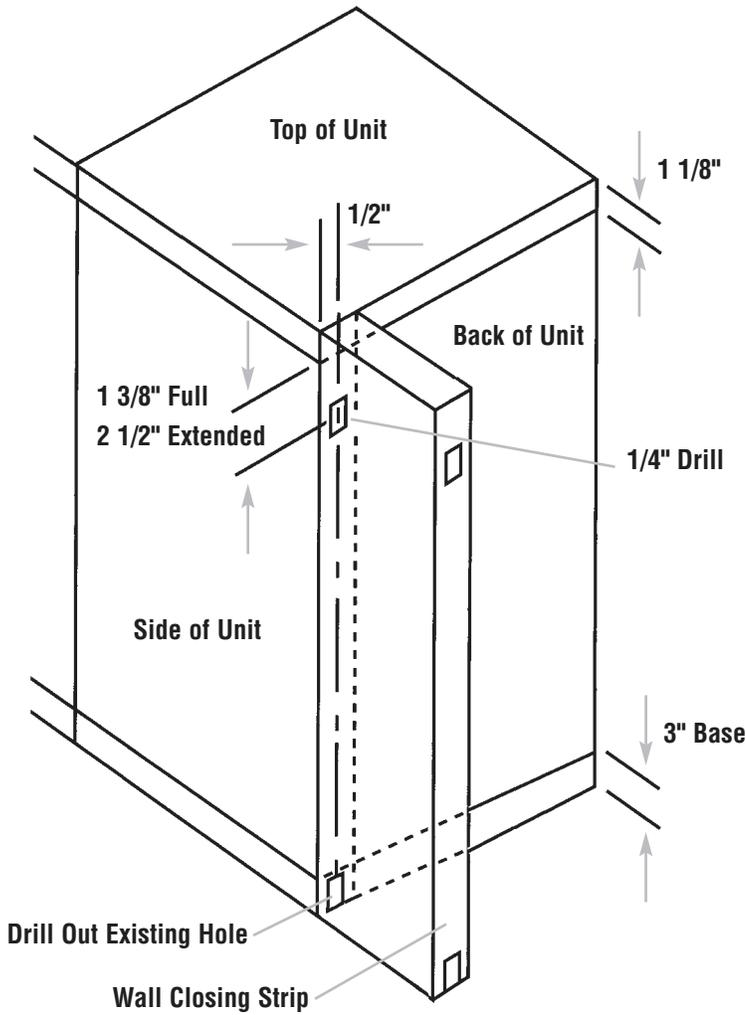

Figure 10 Wall Closing Strip
STEP 12 - WALL CLOSING STRIP (Figure 10)